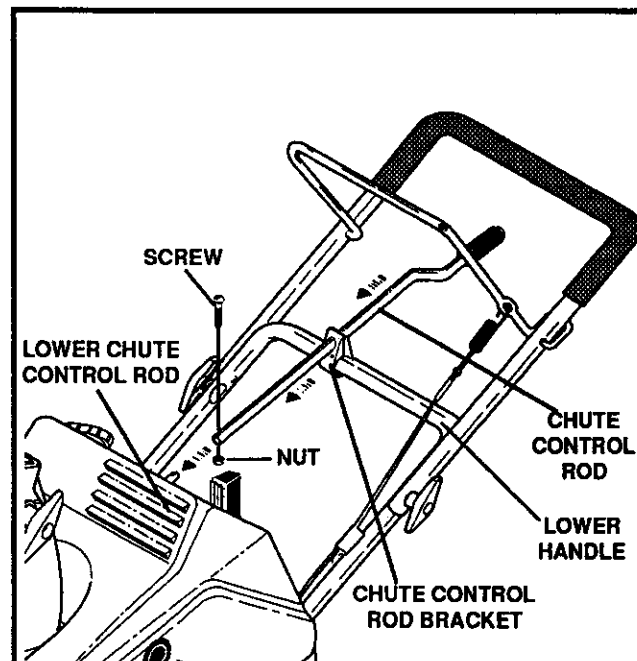

FIG. 3A-ASSY
- Push the end of the chute control rod through the hole in chute control rod bracket on the lower handle (See FIG. 3A-ASSY).
- Align the hole in the chute control rod with the hole in the lower chute control rod (See FIG. 3A-ASSY). Secure with the screw and nut.